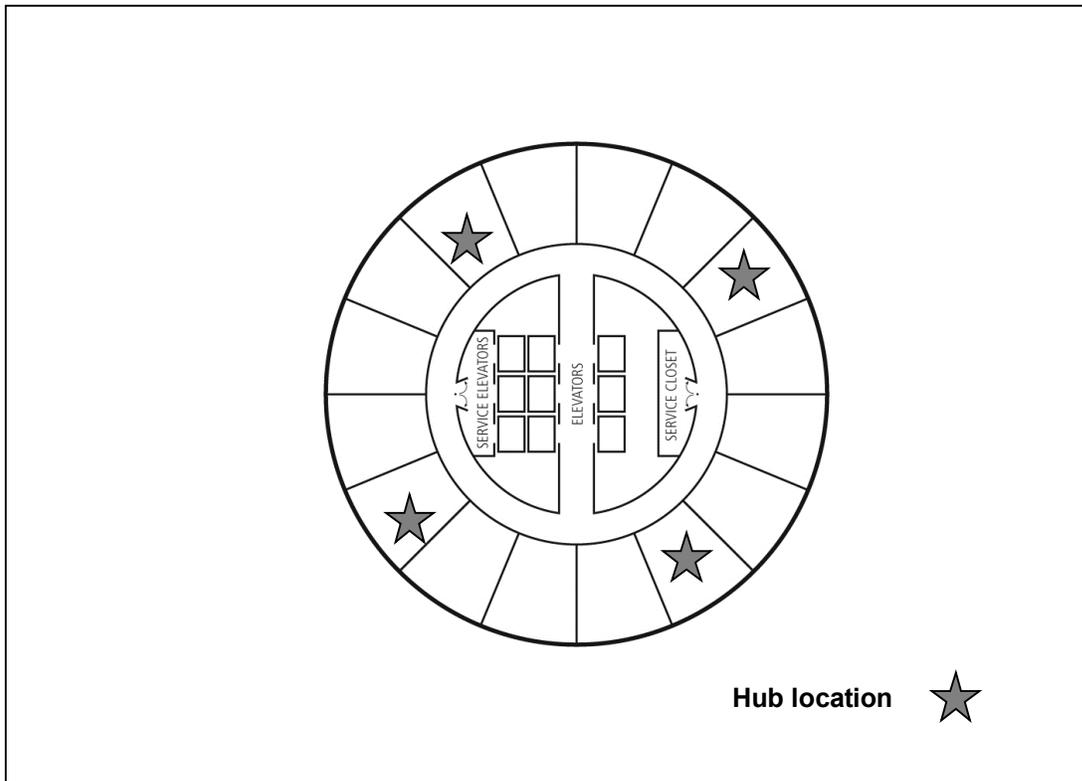

Figure 17 . Circular lay out
5.1.4 The property illustrated in Fig. 17 features a floor with a large elevator shaft in the center of the building.